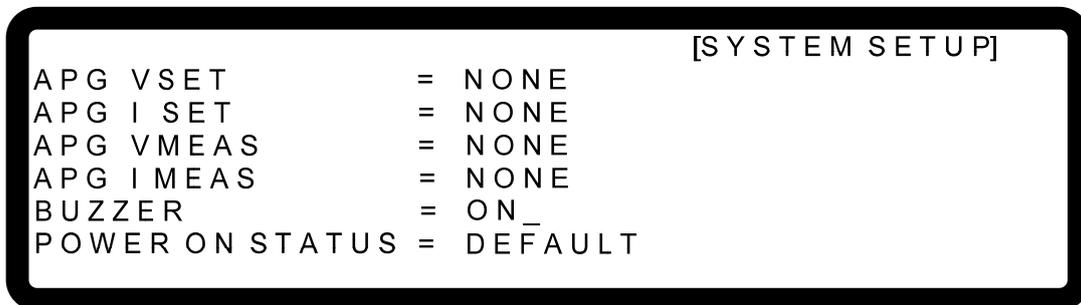

Figure 3-12
- Use “”, “” keys to move the cursor to the column to be set as Figure 3-12 shows.